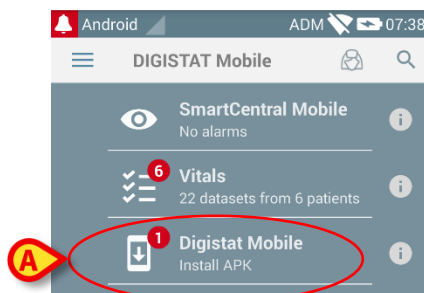

Fig 15
- Touch the row indicated in Fig 15 **A**.